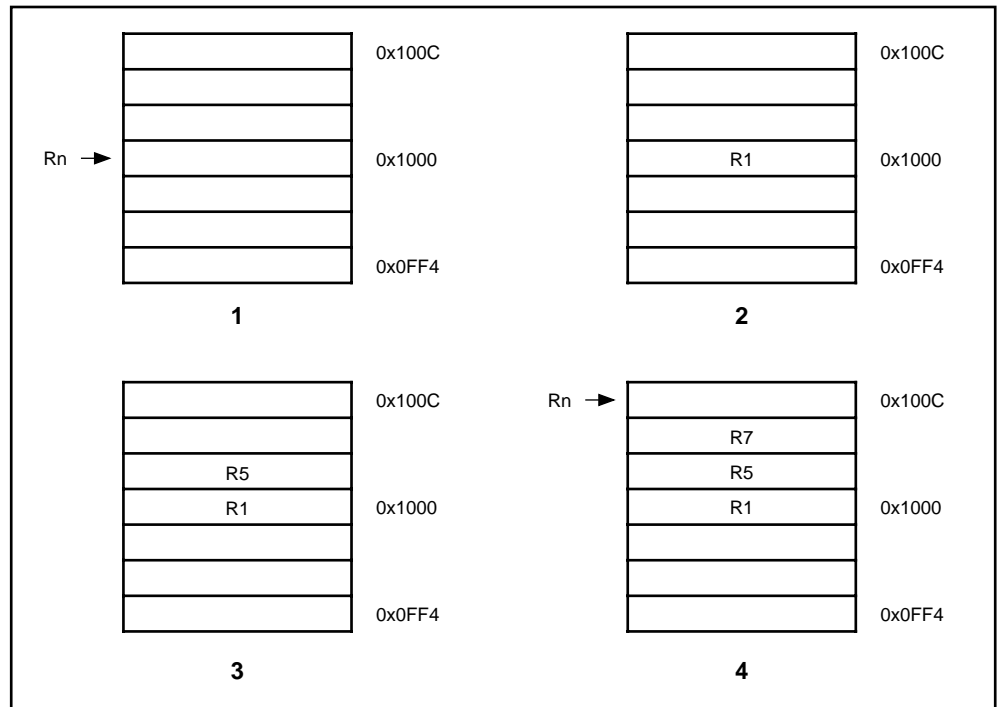
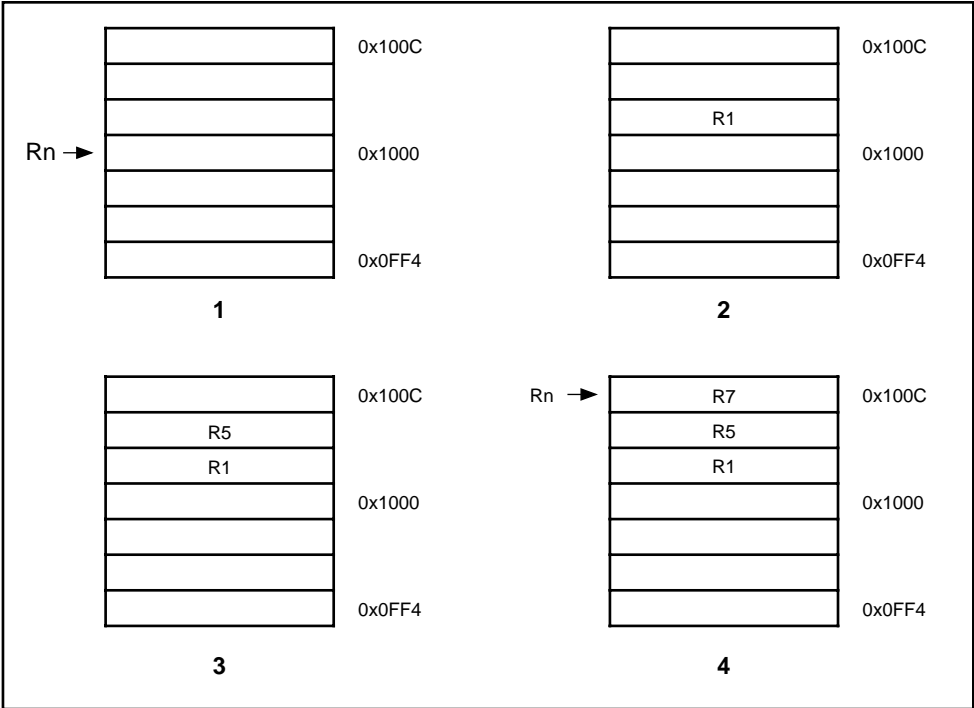
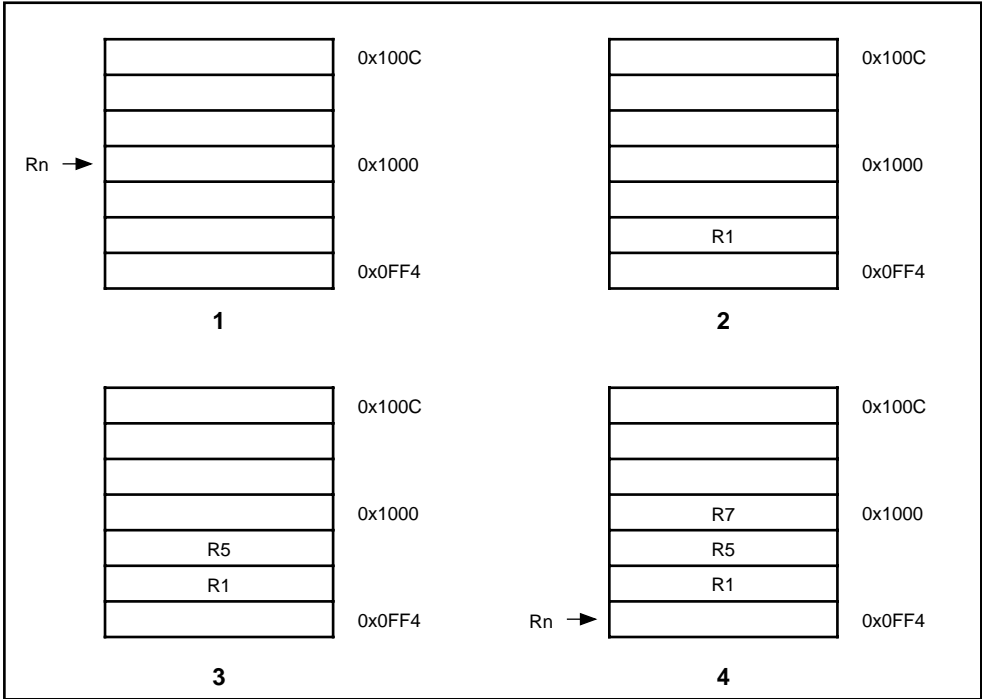
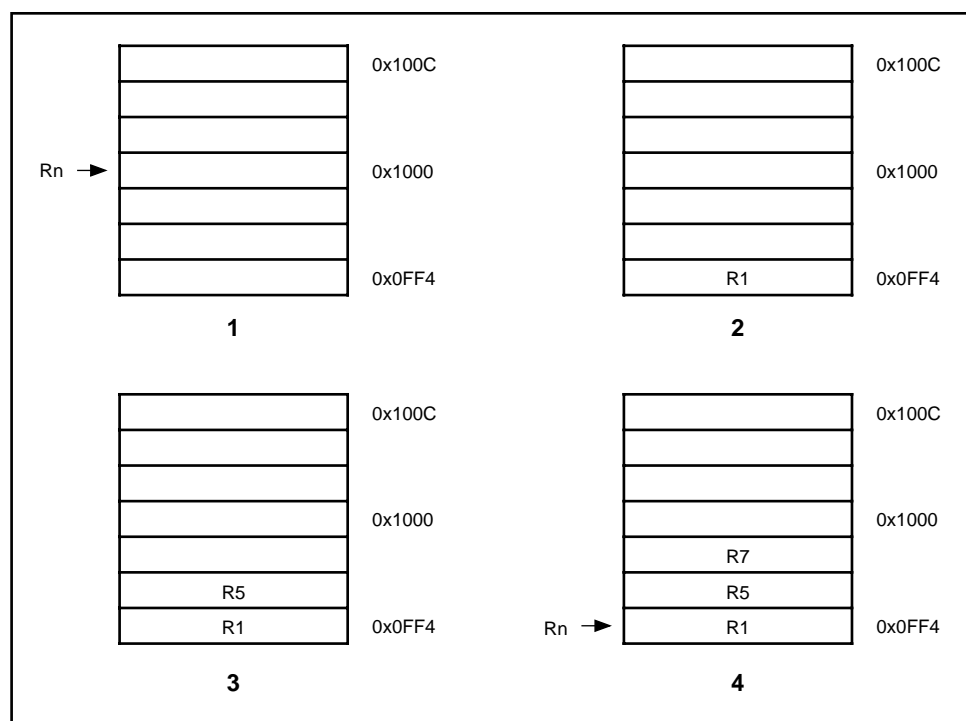

Figure 4-17: Post-increment addressing
Figure 4-18: Pre-increment addressing
Figure 4-19: Post-decrement addressing
Figure 4-20: Pre-decrement addressing
The transfer addresses are determined by the contents of the base register (Rn), the pre/post bit (P) and the up/down bit (U). The registers are transferred in the order lowest to highest, so R15 (if in the list) will always be transferred last. The lowest register also gets transferred to/from the lowest memory address. By way of illustration, consider the transfer of R1, R5 and R7 in the case where Rn=0x1000 and write back of the modified base is required (W=1). *Figure 4-17: Post-increment addressing*, *Figure 4-18: Pre-increment addressing*, *Figure 4-19: Post-decrement addressing* and *Figure 4-20: Pre-decrement addressing* show the sequence of register transfers, the addresses used, and the value of Rn after the instruction has completed.